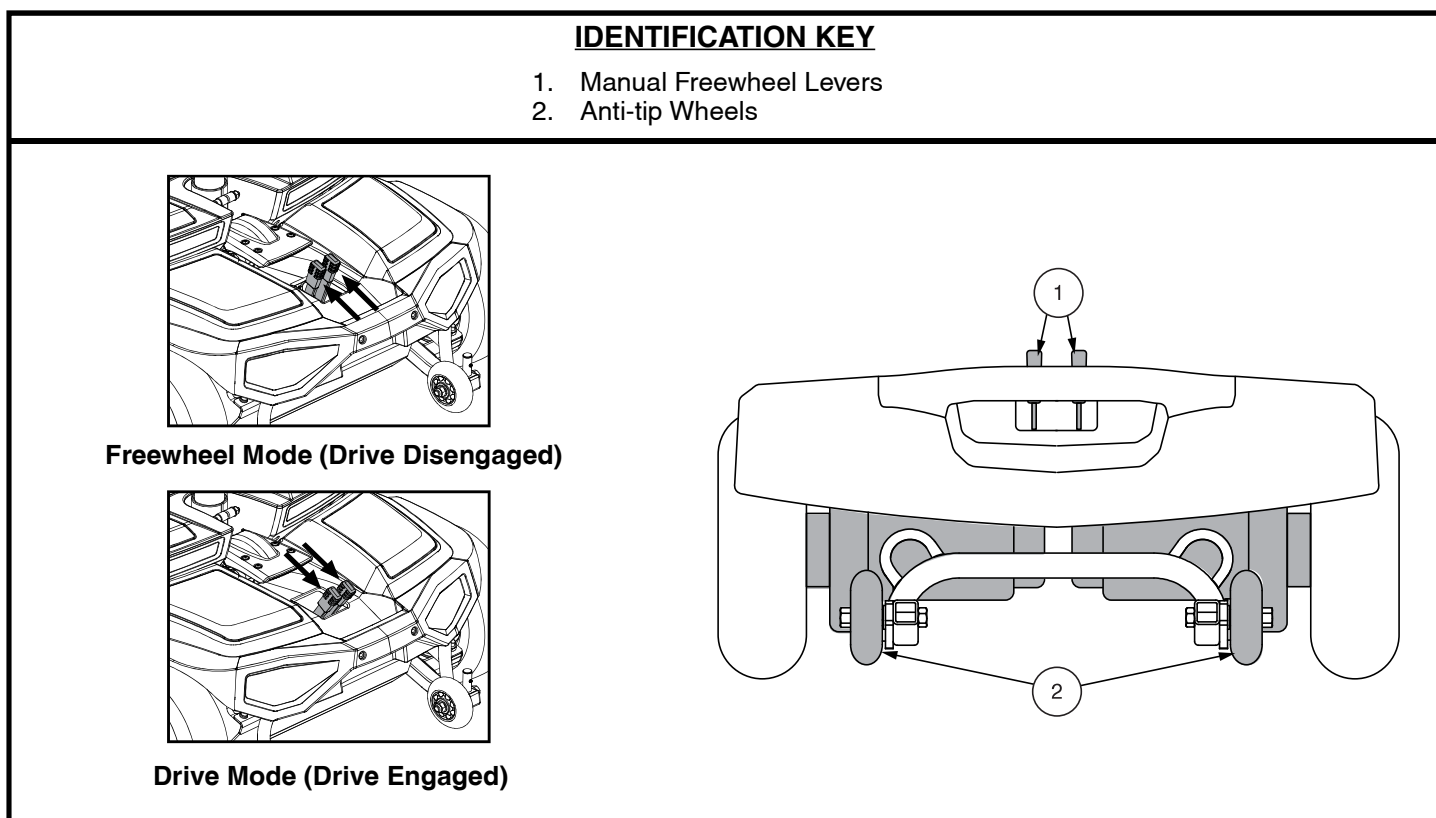

Figure 9. Rear Components - Jazzy ZTS
For your convenience, your travel scooter has a manual freewheel lever on each motor. Manual freewheel levers enable you to disable the drive system in order to maneuver the Travel Scooter manually. See figure 9.
1. Locate the levers on the rear section of the scooter. See figure 9.